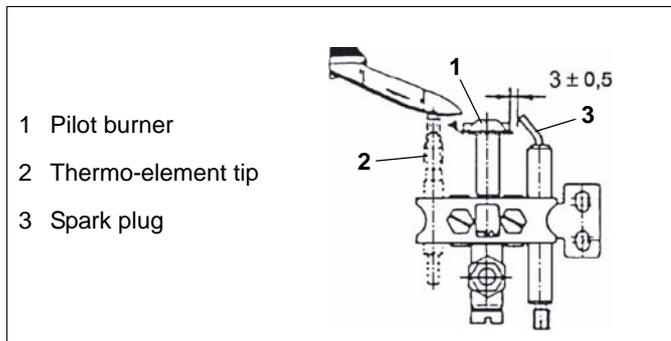

Fig. 14 Pilot burner
To ensure perfect burner ignition, the spark plug (3 / Fig. 14) and the pilot burner (1 / Fig. 14) must be kept clean and dry.
- ⇒ Clean the pilot burner slots (1 / Fig. 14) carefully.
- ⇒ Do not use abrasive paper to clean the tip of the thermo-element (2 / Fig. 14). The sensor must be free of cracks.
- ⇒ The distance between the spark plug (3 / Fig. 14) and the pilot burner (1 / Fig. 14) should not be greater than 3 ± 0.5 mm, or the ignition will not operate perfectly.